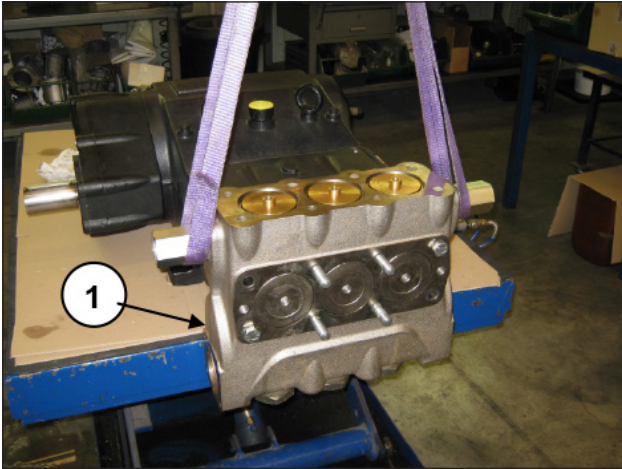

Fig. 109
Remove the head from the pump casing (pos. ①, Fig. 109).